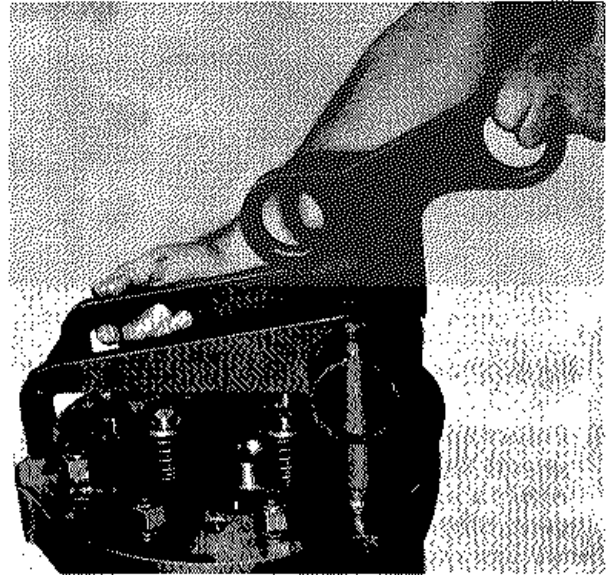

Fig. 5-28 - Lifting Clamp Application
9. Install the lifting clamp, Fig. 5-28, and secure it with the rocker arm shaft nuts.